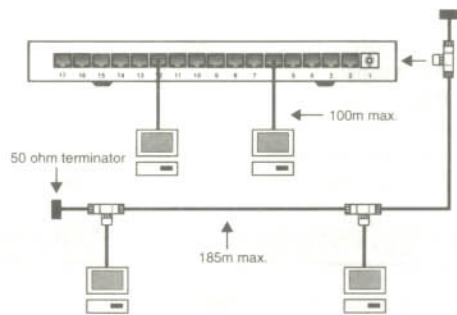

Figure 3
2. Plug one end of the coaxial cable into the hub's BNC port. Please refer to Figure 3 if you are having trouble locating this port.
3. Connect the other end of the coaxial cable to the workstation BNC connector located on the network interface card. Please refer to Figure 3 for an illustration of such a connection.
3. Plug the other end into the workstation network interface card. The following Figure 3 illustrates a simple network topology using a 10BASE-T hub-to-workstation connections.